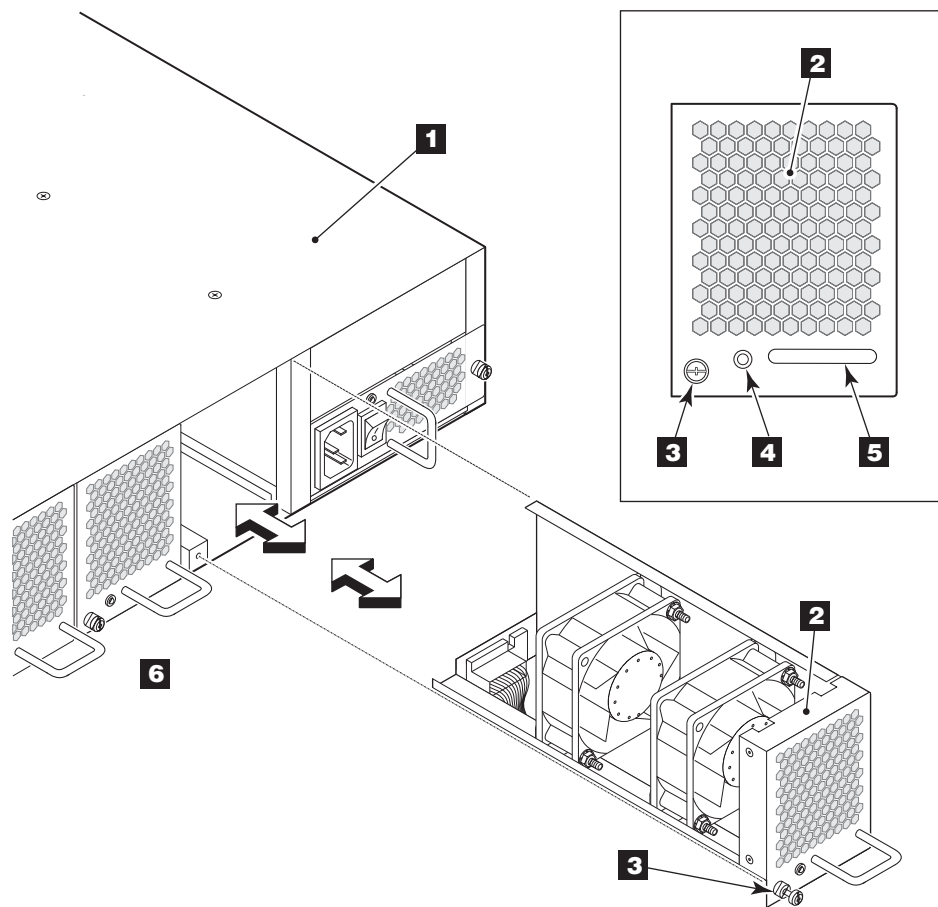

Figure 27. Removing and replacing a fan assembly
3. Orient the new fan assembly as shown in Figure 27, with the captive screw on the right.